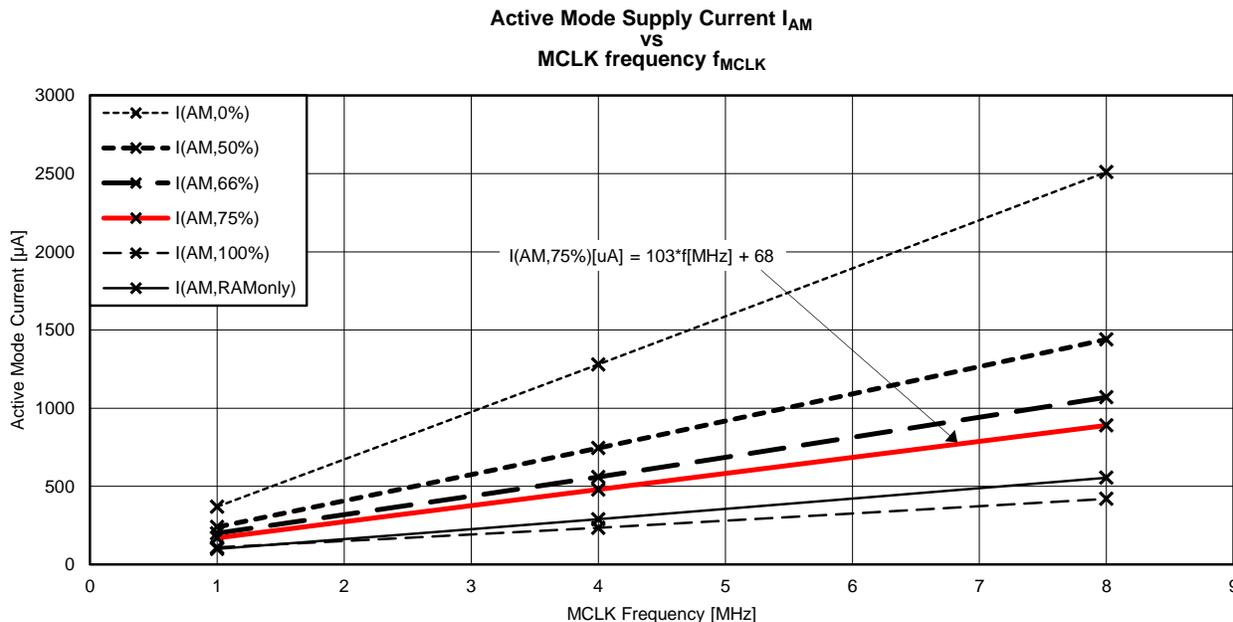

Figure 2. Typical Active Mode Supply Currents, No Wait States
(3) Program and data reside entirely in FRAM. All execution is from FRAM.
(4) Program resides in FRAM. Data resides in SRAM. Average current dissipation varies with cache hit-to-miss ratio as specified. Cache hit ratio represents number cache accesses divided by the total number of FRAM accesses. For example, a 75% ratio implies three of every four accesses is from cache, and the remaining are FRAM accesses.
(5) See Figure 2 for typical curves. Each characteristic equation shown in the graph is computed using the least squares method for best linear fit using the typical data shown in Active Mode Supply Current Into \$V_{CC}\$ Excluding External Current.
(6) Program and data reside entirely in RAM. All execution is from RAM.
(7) Program and data reside entirely in RAM. All execution is from RAM. FRAM is off.